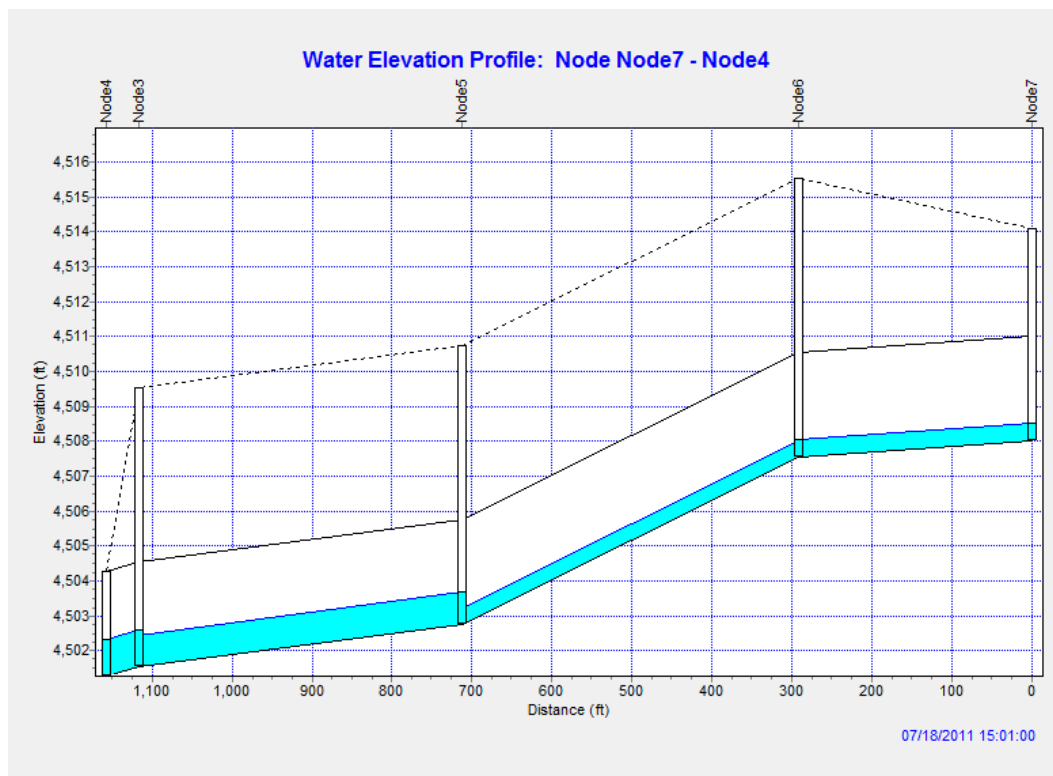

Figure 8-2 Elevation v. Distance Plot from an upstream to a downstream node in your model.
6. Select the "Find Path" button, and then select OK. A plot will appear showing the results of the steady state analysis with the rational flowrates. The plot should look similar to Figure 8-2